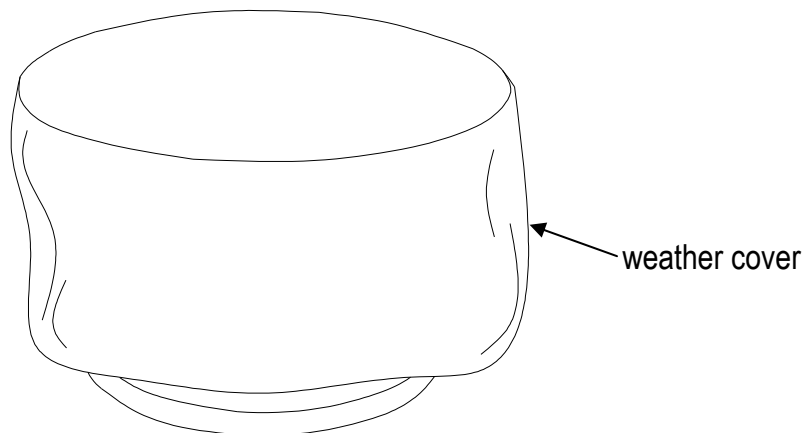

Figure 3
6. Cover the fire pit with the outdoor weather cover when not in use to protect it from the elements or when fire pit is cool COMPLETELY after the use, see Figure 3.